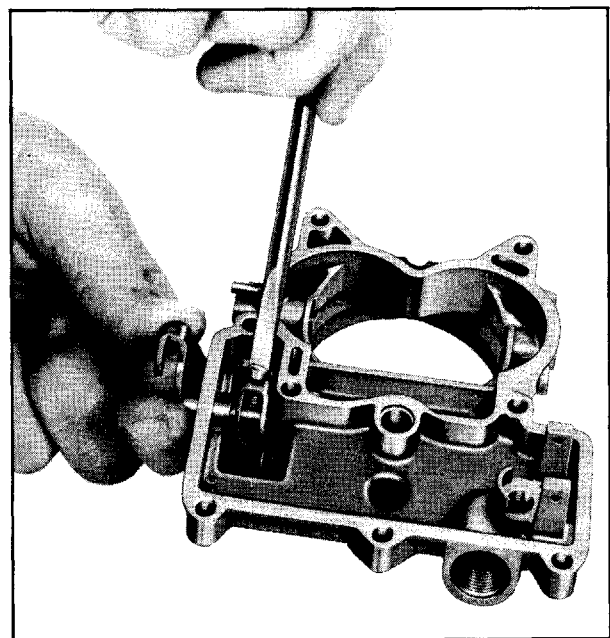

Fig. 6B-96 Removing or Replacing Pump Lever
4. Using a pair of long nose pliers, remove the pump discharge spring retainer (Fig. 6B-100). Then the spring and check ball may also be removed.